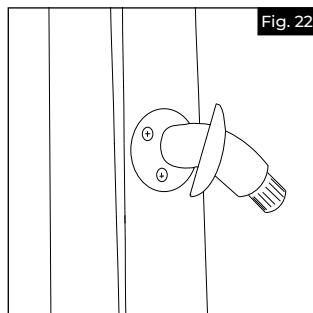

Fig. 22
- c. Slide trim cover onto post return but DO NOT snap into place until railing installation is complete (Fig. 22).